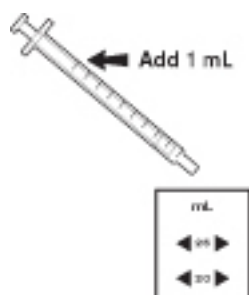

Figure 3:
4. Add 1 mL of the Activator solution using the supplied 1 mL syringe. *See Figure 3.* Stir briefly with the tip of the ampoule.
4. Add 1 mL of the Activator solution using the supplied 1 mL syringe. *See Figure 3.* Stir briefly with the tip of a new Auto-Test ampoule.